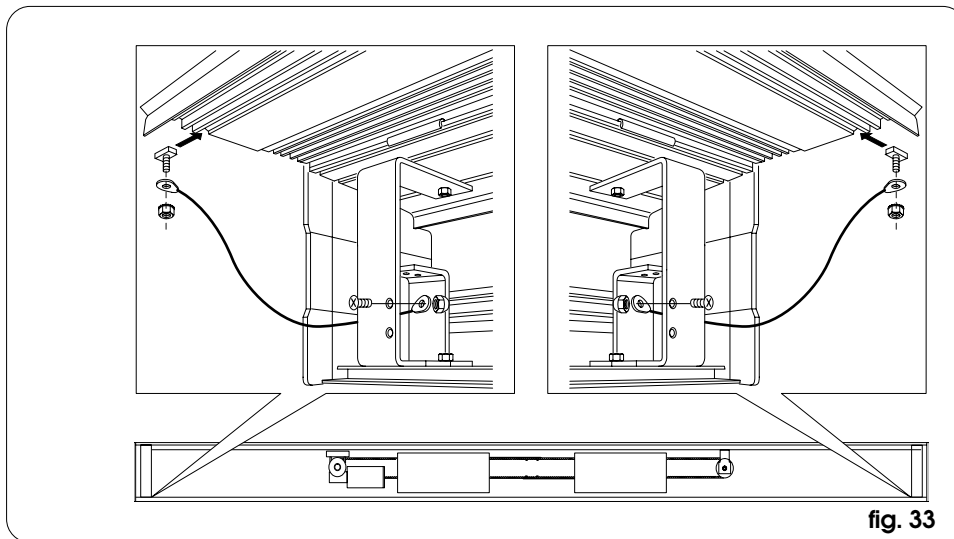

fig. 33
Secure the eye-bolt of the parachute cables to the side brackets as shown in fig.33.
- Secure the eyelets of the parachute cables inside the housing, as shown in fig.33.